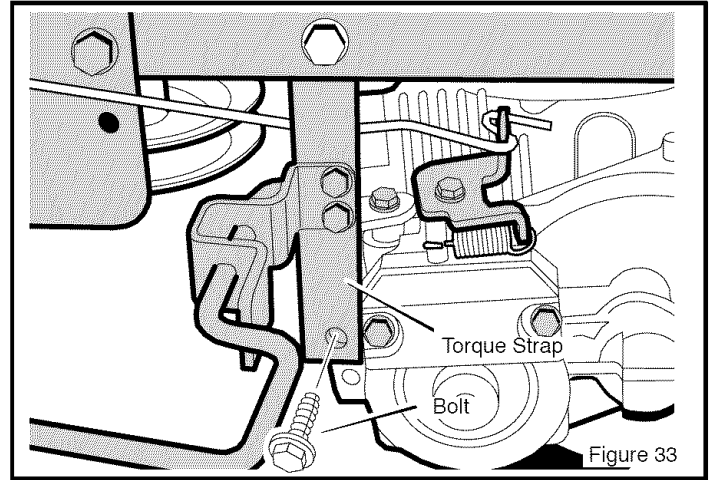

Figure 33
5. Remove the **bolt** from the **torque strap** (see Figure 33).